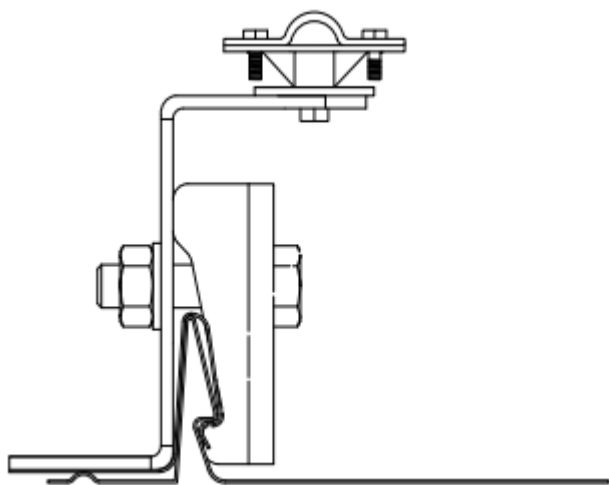

Figure 2.
- Install the Z-bracket plates on one side of the roof seam (Figure 2).
- Place the RP-brackets on the other side of the seam (Figure 2).
- Make sure that the Z and RP-bracket parts are in the position shown in the figure (Figure 2).
- Screw together using an M8x35 mm bolt and M8 nut, and washer (Figure 2).
- Tighten the screws such that the Z-bracket plate holds firmly on the roof material (Figure 2).
- Install the safety cable fasteners on top of the Z-bracket plate and screw them together using the M8x20 screw (Figure 2).